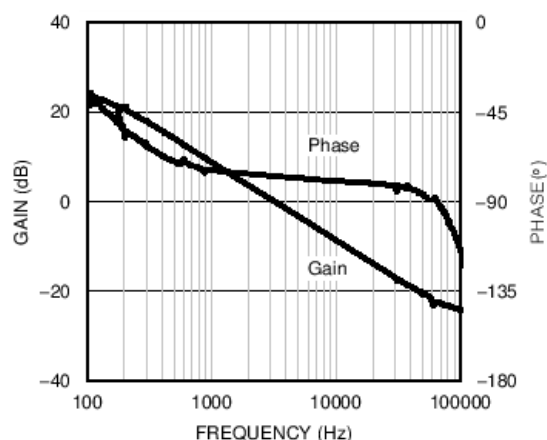
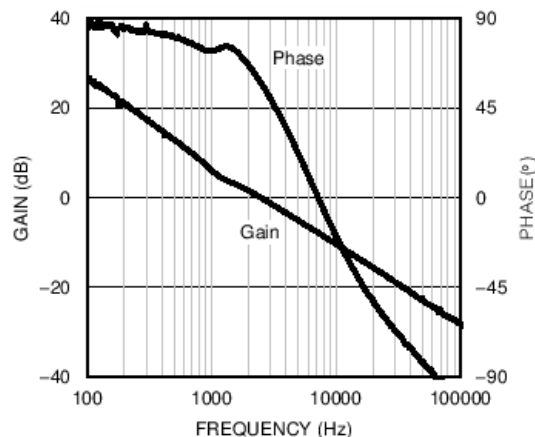

Figure 21. Modulator Gain and Phase - Buck Mode
Figure 26. Overall Loop Gain and Phase - Buck-Boost Mode
The plots shown in Figure 21 through Figure 26 illustrate the gain and phase diagrams of the design example. The overall bandwidth is lower in a buck-boost application due the compensation challenges associated with the right-half-plane zero. For a pure buck application, the bandwidth could be much higher. The LM5116 datasheet is a good reference for compensation design of a pure buck mode regulator.
- Changed Figure 21 25
- Added Figure 26 27